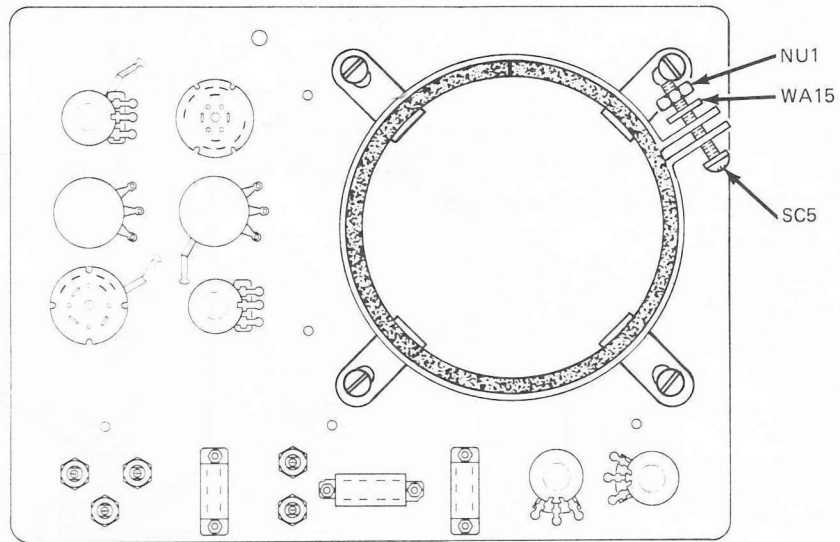

Figure 35. Installing CL59.
(3) Position the crt clamp (CL59) so that it rests inside the flange of the crt front panel brackets. Use a 6-32 \times 1" machine screw, lockwasher, and nut to secure the CL59. Position the screw as shown in Fig.35. Do not tighten the screw at this time ()